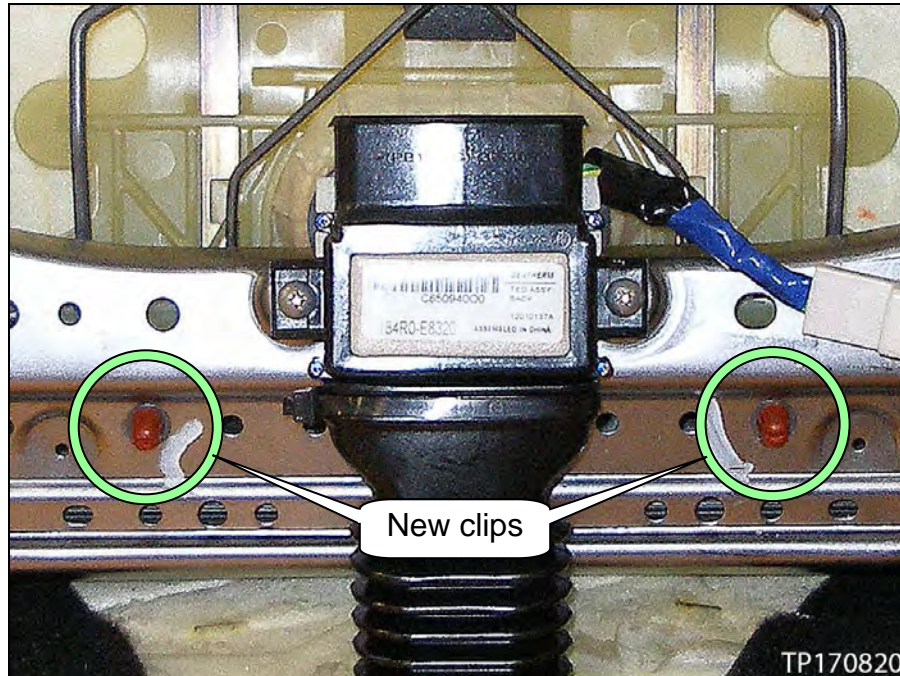

Figure 19
11. Reposition the lumbar support assembly, and then snap all clips into place (see Figure 19 and 20).